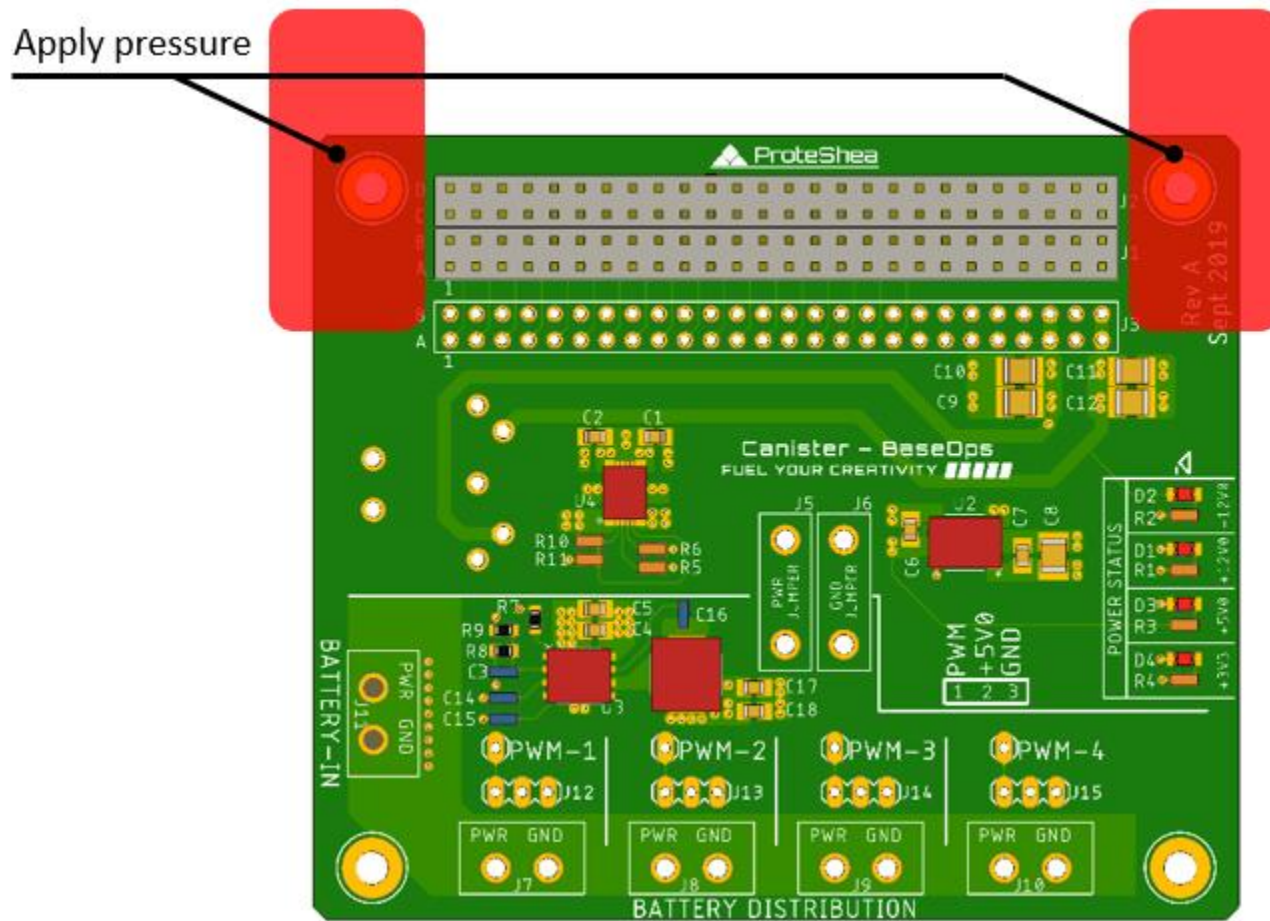

Figure 11. Areas to Apply Pressure for Installation or Removal.
2. Use two hands and apply even pressure on both sides of the Canister (areas marked in red in Fig. 11) to pull the board vertically out of the BaseOps board.